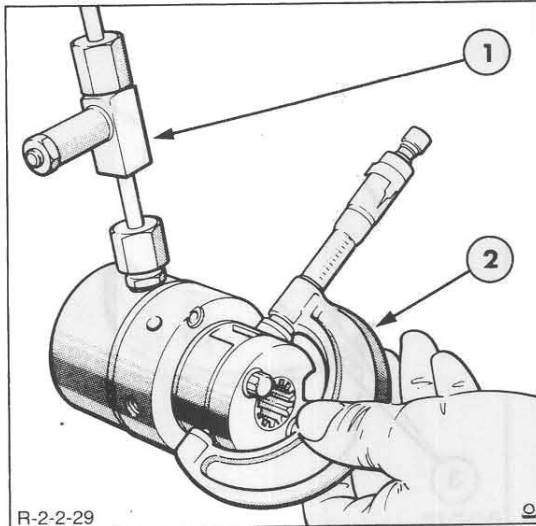

Figure 29
10. Measure the roller to roller dimension across both pairs of rollers and obtain an average dimension, Figure 29. If necessary, adjustment can be made by rotating the top adjusting plate until the dimension is to specification. If the correct dimension cannot be obtained by adjustment of the top plate, then the top plate and/or the bottom plate must be changed to the next highest or lowest adjusting plate. The following instructions must be adhered to when changing adjusting plates. Tighten the drive plate screws to prevent movement of the adjusting plate and remove tool No. 7144-262 from the hydraulic head.